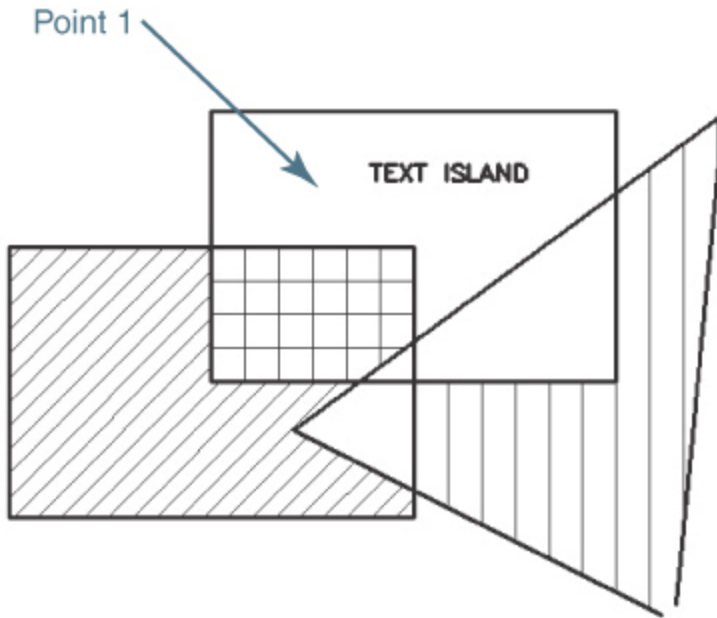

Figure 10-18
- 3 Pick point 1 as shown in Figure 10-18. AutoCAD will detect the boundary along with the text island.